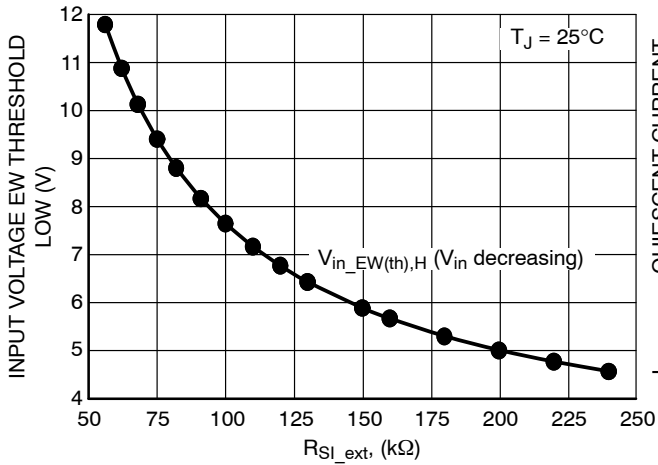
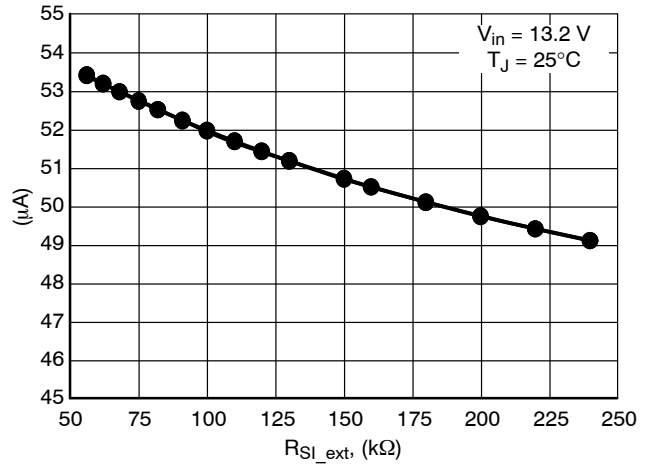

Figure 22. Input Voltage EW Threshold Low vs.  $R_{Sl\_ext}$  (Calculated Using E24 Series)
Figure 23. Quiescent Current vs.  $R_{Sl\_ext}$  (Including  $I_{RSl\_ext}$ , Calculated Using E24 Series)
13.  $I_q$  for Preset EW Threshold Options is measured when  $R_{SI\_ext}$  is not used. For typical values of  $I_q$  vs  $R_{SI\_ext}$  see Figure 23.
Practically only preset options above 4.5 V can be used without RSI\_ext due to minimum operating input voltage value limitation. For other preset options the trip point has to be adjusted externally using RSI\_ext resistor connected between input monitor SI and GND (see Figure 1). For other preset options RSI\_ext has to be used to achieve Vin\_EW(th) > 5.5 V (minimum operating input voltage value). The value for RSI\_ext is recommended to be selected in range from 50 kΩ to 250 kΩ and the trip point can be shifted according to Figure 22. The higher is RSI\_ext the lower is overall Quiescent Current of the application (see Figure 23). General formulas for calculation of Vin\_EW(th)Low or RSI\_ext for selected preset Early Warning options are described by Equations 1 and 2.